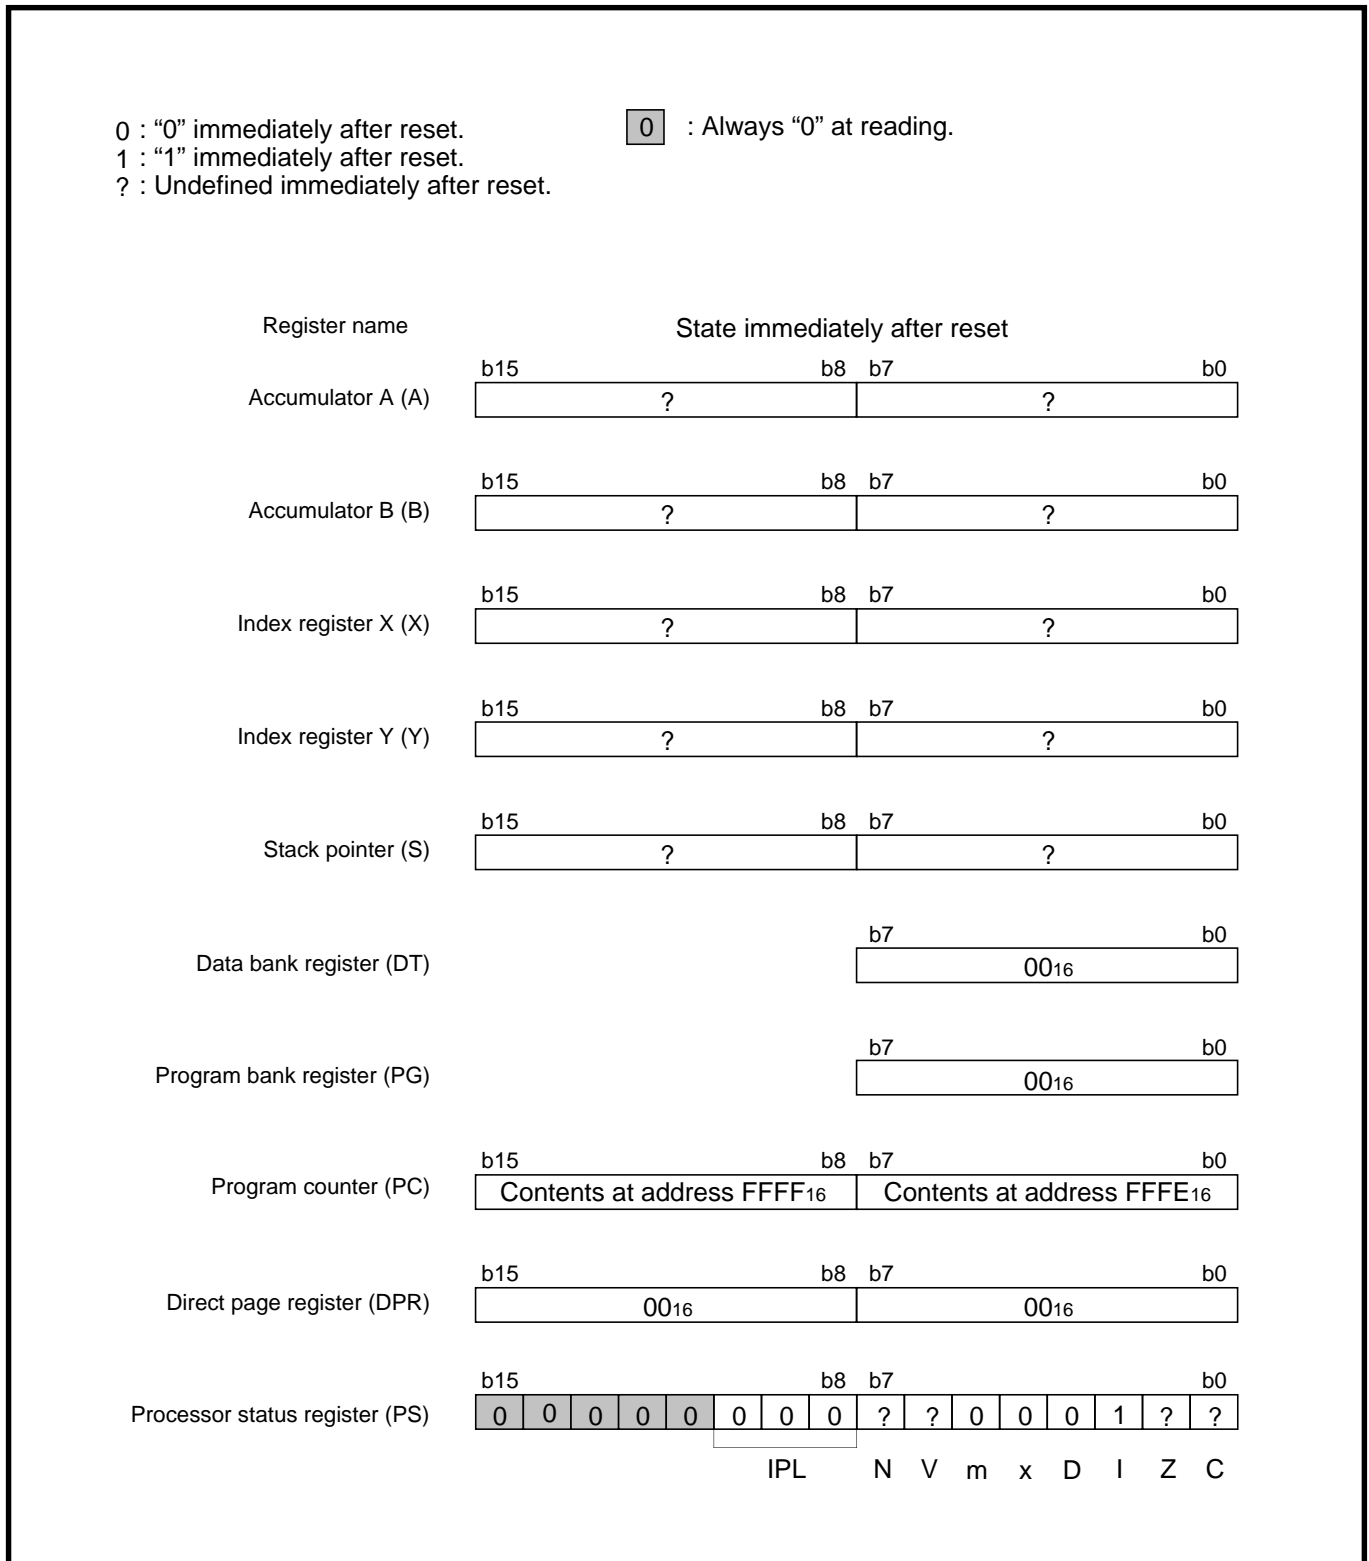

Fig. 4.1.3 State of CPU registers immediately after reset
- ① After supplying "L" level to the  $\overline{\text{RESET}}$  pin, the microcomputer initializes pins within a period of several ten ns. (Refer to "Table 4.1.1.")
- ② While the  $\overline{\text{RESET}}$  pin is "L" level and within a period of 4 to 5 cycles of  $\phi$  after the  $\overline{\text{RESET}}$  pin goes from "L" to "H," the microcomputer initializes the central processing unit (CPU) and SFR area. At this time, the contents of the internal RAM area become undefined (except when Stop or Wait mode is terminated). (Refer to "Figures 4.1.3 to 4.1.9.")
Figure 4.1.3 shows the state of the CPU registers immediately after reset. Figures 4.1.4 to 4.1.9 show the state of the SFR and internal RAM areas immediately after reset.